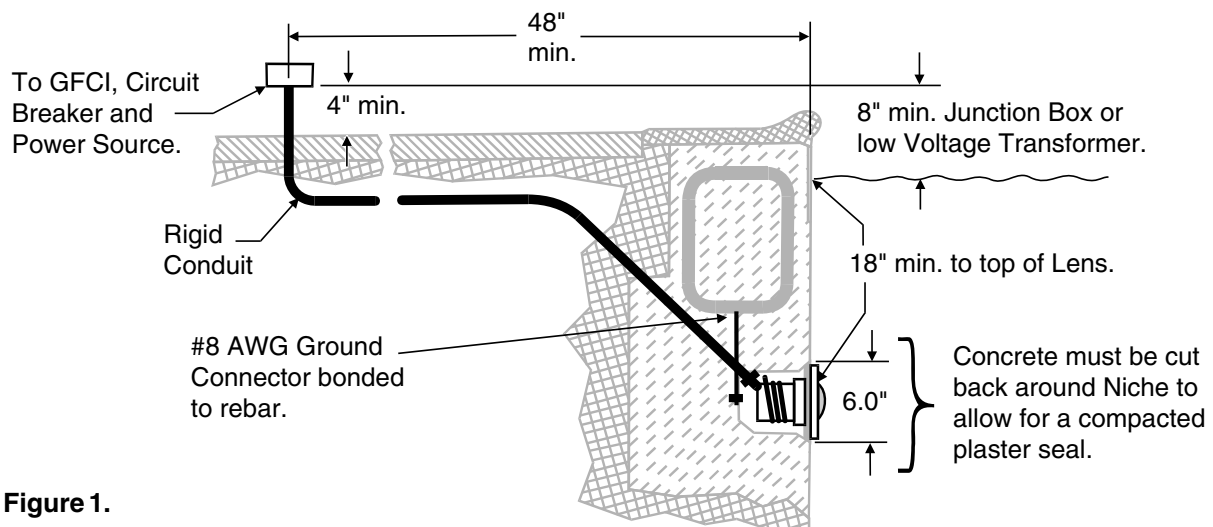

Figure 1.
**BEFORE STARTING:** The following steps (1-6) describe the tasks that must be completed by the electrician before the IntelliBrite® light fixture is installed. See Figure 1 diagram.
- The Junction Box (or, for 12 volt models, the low voltage transformer) is located at least 8 inches above the maximum water level of the pool and at least 48 inches from the edge of the pool; see Figure 1.
- The wet niche is properly installed so that the top edge of the underwater light's lens is at least 18 inches below the surface of the water in the pool/spa; see Figure 1. (Not more than 20" depth in Canada.)
- The wet niche is properly electrically bonded and grounded via the No. 8 AWG ground connector located at the rear of the niche; see Figure 1.
1. Feed cord through conduit to Junction Box, leaving at least four (4) feet of cord at the light fixture to coil around the light; see Figure 1. The four (4) feet of cord around the light allows the light to be serviced after the spa is filled with water.
- The Junction Box (**or, for 12 volt models, the low voltage transformer**) is located at least 8 inches above ground level and at least 48 inches from the edge of the spa; see Figure 1.
- The wet niche is properly installed so that the top edge of the underwater light's lens is at least 18 inches below the surface of the water in the spa; see Figure 1.
5. Leave at least four (4) feet of cord to coil around the light fixture; see Figure 1 on page 2. This four (4) feet of cord coiled around the light allows the light to be serviced after the spa is filled with water.
6. Cut the cord at the Junction Box, leaving at least size (6) inches of cord to make connections.
7. Strip six (6) inches of the outer cord jacket from the cord to expose the three (3) insulated wires – be careful not to damage the insulation on the three inner wires.
8. Connect all three (3) wires to the corresponding circuit wires in the Junction Box (black wire to power, white wire to common, and green wire to ground) and secure the Junction Box cover in place.
**⚠ WARNING** - Never operate this underwater light for more than ten (10) seconds unless it is totally submerged in water. Without total submersion, the light assembly will get extremely hot, which may result in serious burns or in breakage of the lens. This may result in serious injury to pool and spa users, installers, or bystanders, or in damage to property.
10. Fill the pool and/or spa until the IntelliBrite® spa light fixture is completely submerged in water before operating the light for more than ten (10) seconds. Switch on main switch or circuit breaker, as well as the switch which operates the IntelliBrite® spa light itself to verify that the light is operating correctly.
- Aligning the lens position with the LEDs:** While looking through the front of the lens, slightly rotate the lens until the vertical lines on the lens are in focus with the four (4) rows of LEDs below.
12. **Install the IntelliBrite® light assembly into the niche:** Feed cord through conduit to Junction Box, leaving at least four (4) feet of cord at the light fixture to coil around the light; see Figure 1 (page 3). The four (4) feet of cord around the light allows the light to be serviced after the spa is filled with water.
13. Cut the cord at the Junction Box, leaving at least six (6) inches of cord to make connections.
14. Strip six (6) inches of the outer cord jacket to expose the three (3) insulated wires (be careful not to damage the insulation on the three inner wires).
15. Connect all three (3) wires to the corresponding circuit wires in the Junction Box and secure the Junction Box cover in place.